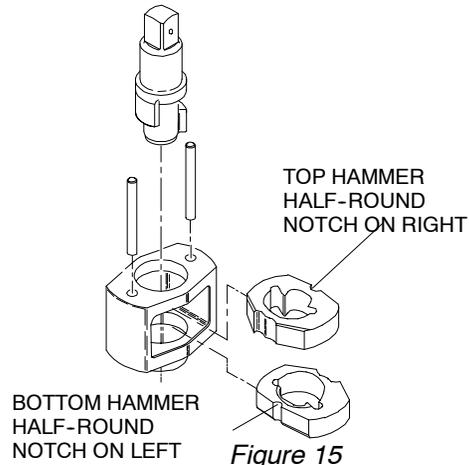

Figure 15 (Dwg. TPD1535)
4. Replace the Hammer Pins (13).
5. Examine the base of the Anvil (8) and note its contour. While looking down through the Hammer Frame, swing the top Hammer to its full extreme one way or another until you can match the contour of the Anvil. Enter the Anvil into the Hammer Frame and through the first Hammer. Swing the bottom Hammer in the opposite direction from the top Hammer and maneuver the Anvil slightly until it drops into the bottom Hammer. Refer to Figure 15.